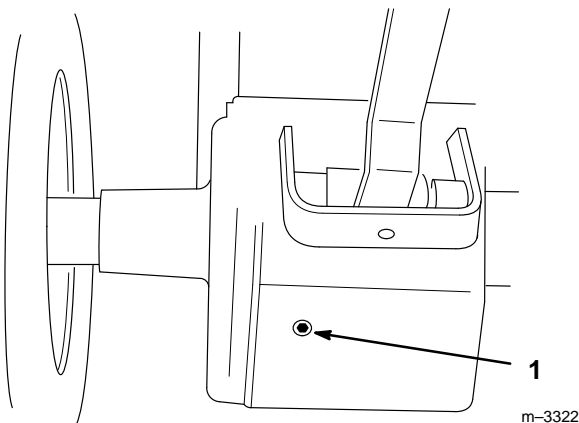

Figure 44
3. Place a pan below the transaxle drain. Open the drain by removing the plug (Fig. 44).